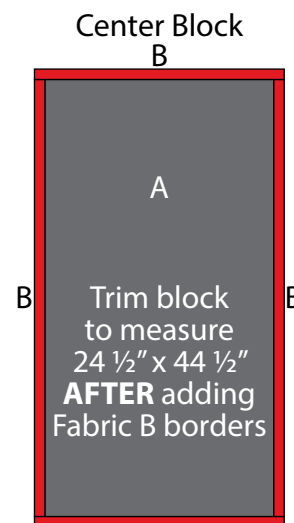

Fig. 1 B
1. Sew (1) 2" x 42 ½" Fabric B strip to each side of the 22 ½" x 42 ½" Fabric A rectangle. Sew (1) 2" x 25 ½" Fabric B strip to the top and to the bottom of the Fabric A rectangle to make the Center Block (Fig. 1). **Trim the block to measure 24 ½" x 44 ½"**.